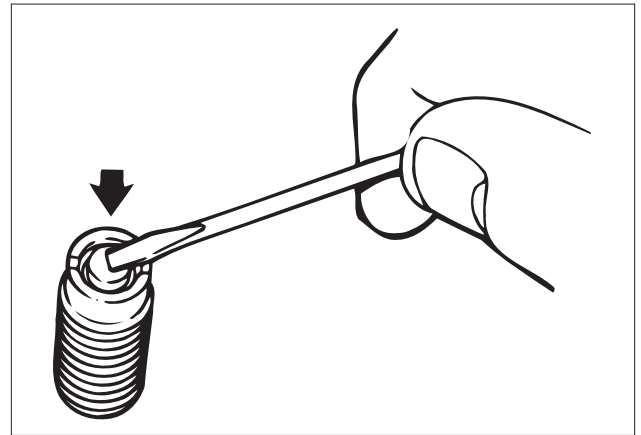

FIG. 36
3. Inspect the slave piston adjusting screw. The plunger should protrude from the bottom of the screw, have light spring pressure apparent when depressed, and should move freely (Fig. 36). Be sure the retaining ring is fully engaged in its groove. Replace the entire screw assembly if any defect is found.